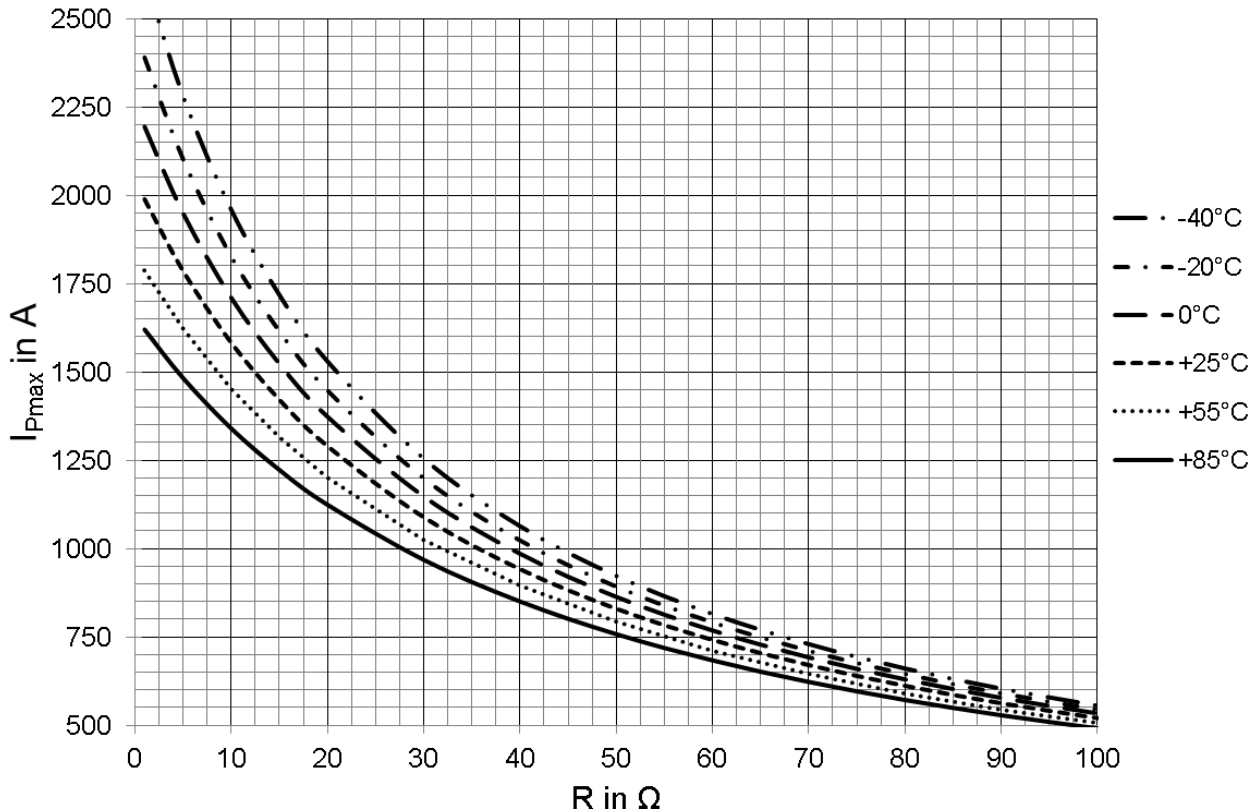

Fig. 1: $I_{P,max} = f(R_M) @T_A$
* for $I_{P,max}$ see fig. 1 on page 2